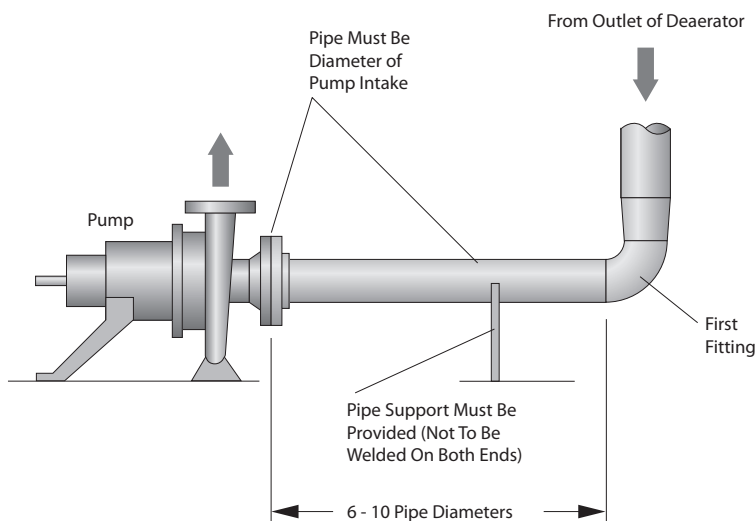

FIGURE 3 - TYPICAL PUMP PIPING
10. Provide properly designed supports and anchors for all piping where necessary to prevent undue stress from being imparted on equipment such as pumps, valves and the heater. Care should be taken as end reactions transmitted to rotating equipment, such as pumps, may deform the equipment. Therefore equipment manufacturers' recommendations on allowable forces and movements should be followed. Ensure all pipe joints are of either welded or flanged construction. Screwed joints must be avoided where possible. In no instance should screwed joints be used in the flow circuit. All flanges should be welded to the pipe and not screwed. Depending on the size, flanges should be 150# or 300# raised face flanges, SA105. See Figure 3.